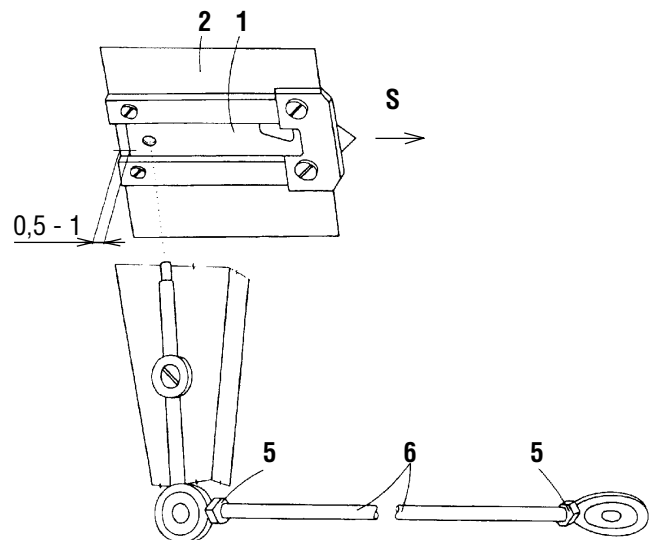

Fig. 24
27. Setting of the starting position of the movable thread cutter (Fig. 24, 25)
29. Dismounting and mounting of the movable cutting knife (Fig. 24)